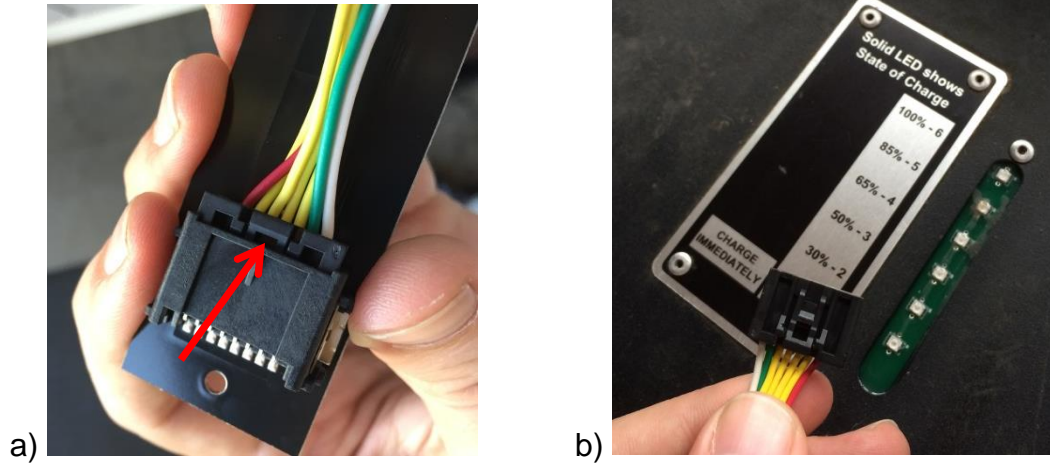

Figure 3: (a) The red arrow shows the center tab which must be pressed to unplug the SOC. (b) The external view of the SOC gauge and the unplugged connector.
3. To remove the outer case, remove the four (4) screws at the base of the pack. Loosen the strain release on the battery leads and use lubricant to slide the rubber plugs all the way up the leads to the Anderson connector.
5. Once the outer case is removable, lift the case roughly 1 foot from the ground. Reach into the case through the cable storage box opening, and disconnect the battery State of Charge (SOC) gauge. It is located inside the battery case, under the SOC gauge and above the internal charger. Press the tab in the middle of the connector to unplug it. A picture of the connector and SOC are shown in Figure 3.